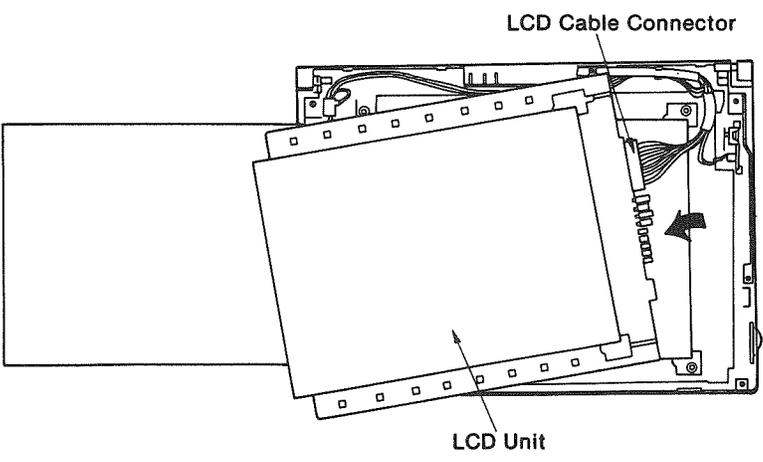

Figure 35
(9) Disconnect the LCD cable connector from the LCD unit and remove the LCD unit as shown in Figure 35.